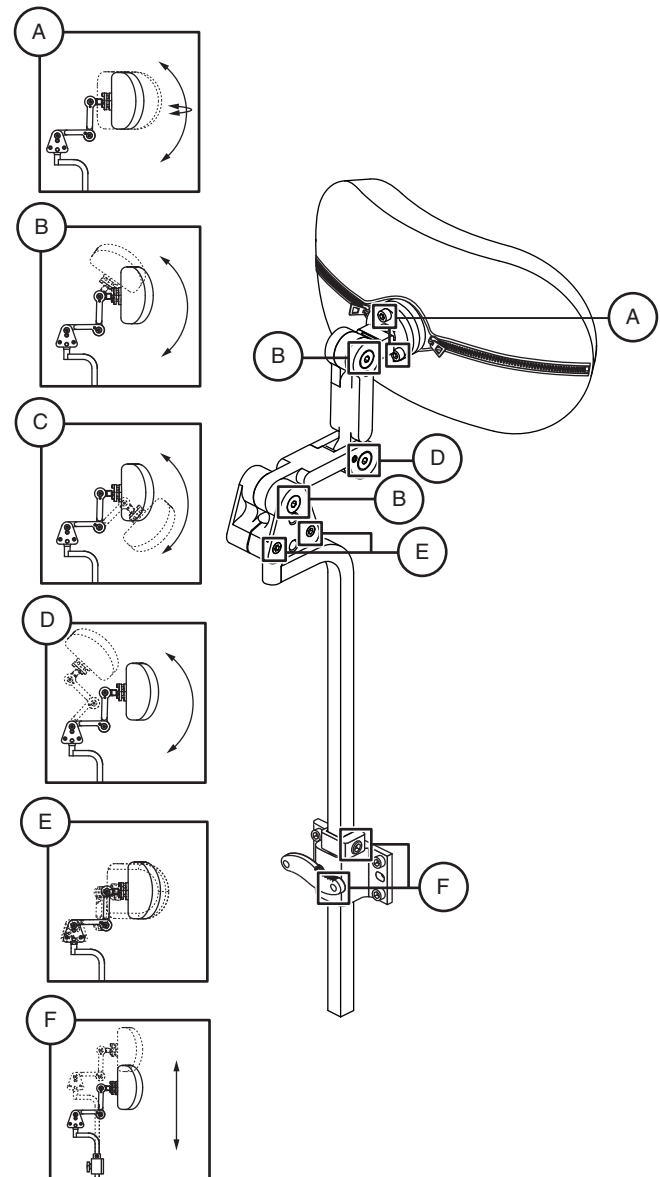

Figure 16. Headrest Adjustment Components
1. Loosen the adjustment screws that correspond to the desired adjustments. **See figure 16.**